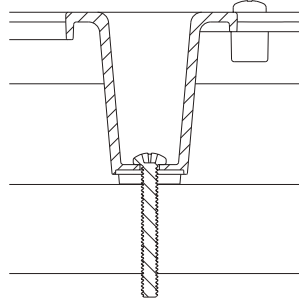

Fig. 3.2
2. Set base on counter so that bolts protrude through holes (Fig. 3.2)